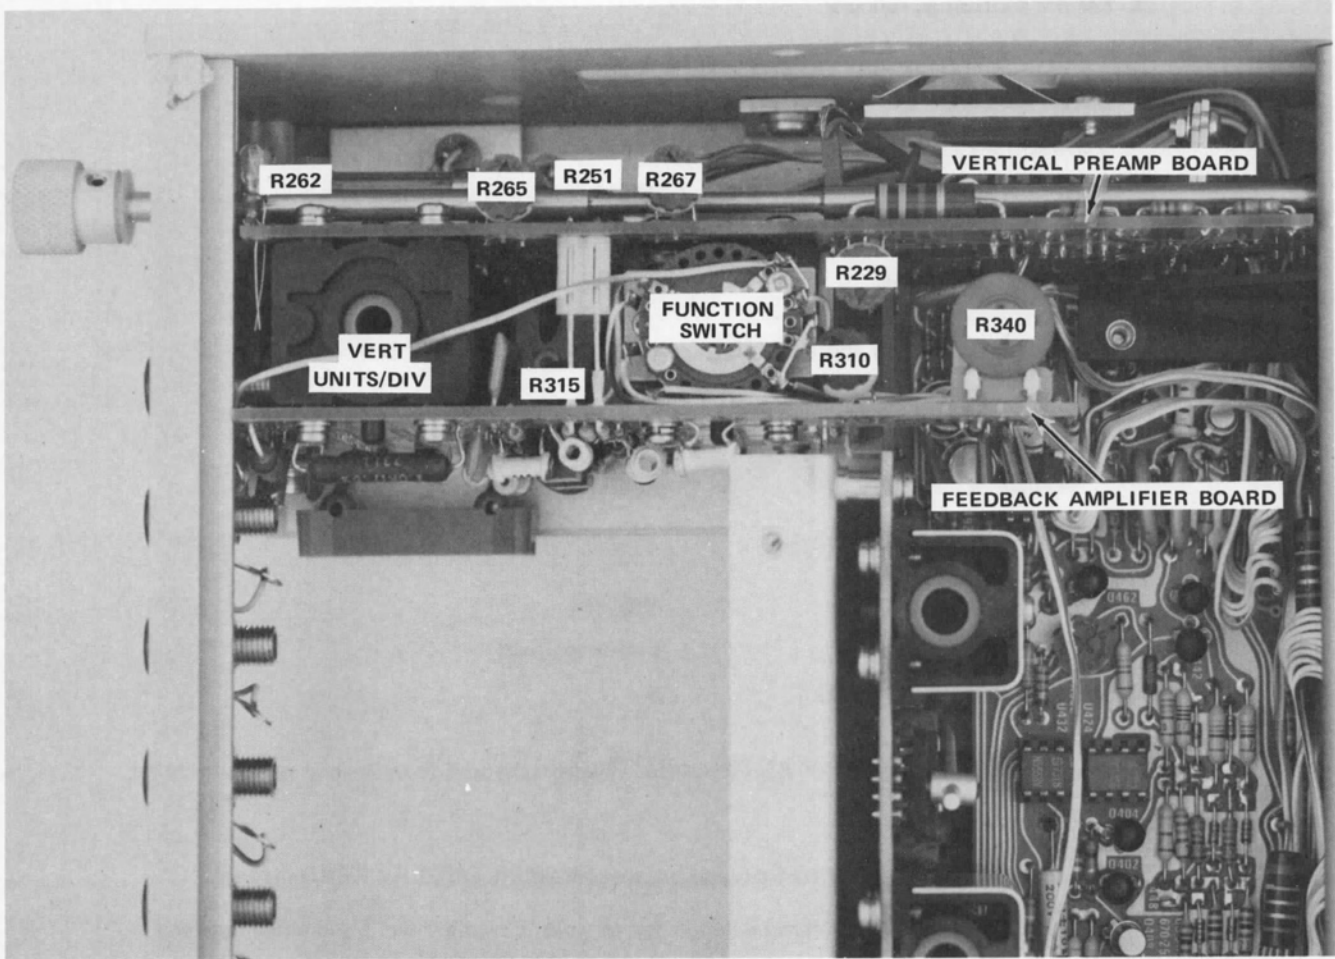

Fig. 5-4. Location of adjustments on Vertical Preamp and Feedback Amplifier board.
d. ADJUST-R340, Vertical Preamp Balance, for no spot movement while switching between 5 mA and 5 pA. See Fig. 5-4 for location of R340.
See Fig. 5-4 for location of R315.
d. ADJUST-R340, Vertical Preamp Balance (see Fig. 5-4 for location) for no spot movement while switching between 5 p/DIV and 5 m/DIV.